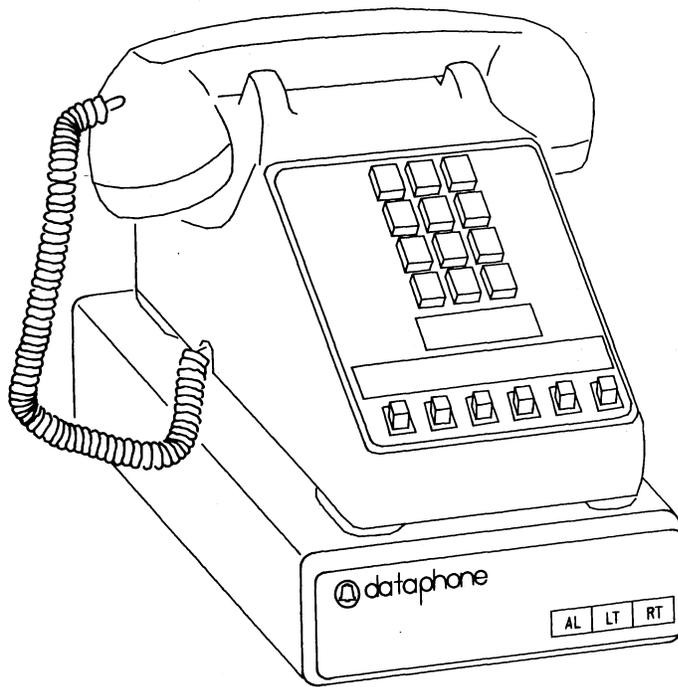

Fig. 1—DS 202SR With 2565HKM Telephone Set
1.01 This section contains the information needed to install and connect data set (DS) 202SR (Fig. 1). The data set should be installed in conformance with the general instructions given in Section 590-010-200. The information in this section covers installation of data sets in individual mountings. Refer to Section 590-011-202 for a description of registered multiset installations in 40A3 and 40A4 data mountings and Bell System provided cabinets.